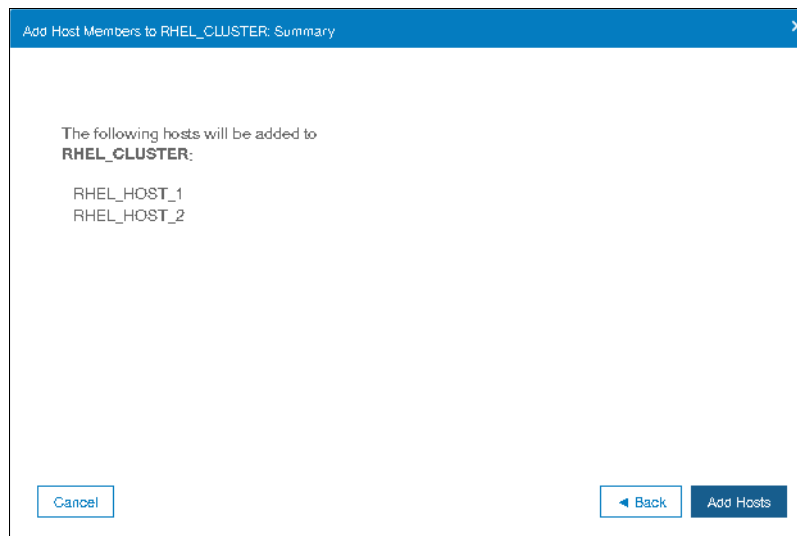

Figure 5-81 Summary of hosts
- Click **Next** and a summary of the hosts to be added will be shown as depicted in Figure 5-81.